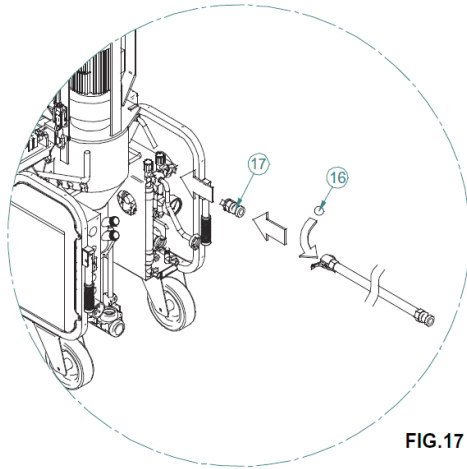

FIG.17
Remove the mixer and clean. Clean the mixing zone with a brush. Insert the scraper (ref. 15) as shown in fig. 17, close the mixing chamber, turn the main switch to the correct position (blue lamp ON) and then press the start pushbutton. Leave running for 5-10 seconds, until the mixing chamber is completely clean.
Stop the machine by means of the stop pushbutton, remove the scraper and refit the clean mixer. Proceed with pipeline cleaning. Insert a washing sponge (ref.16) at the start of the pipeline, connect the material delivery hose to the mortar hose-water hose coupling (ref.17), and then connect the latter to the auxiliary water valve. Insert the water pump and open the auxiliary water valve until the washing sponge comes out from the other end (fig.17).